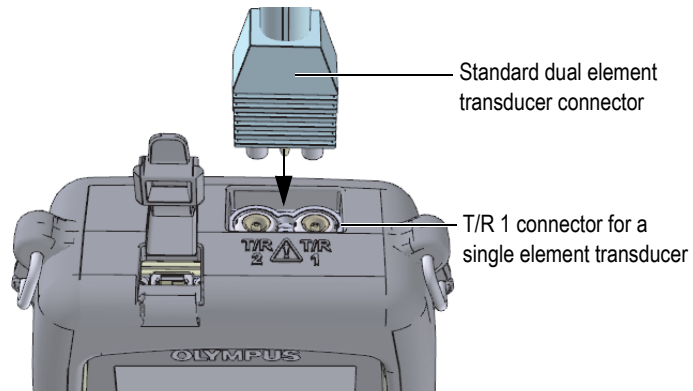

Figure 5-1 Plugging in the transducer
1. Plug the transducer into the transducer connector(s) on the top of the 45MG case (see Figure 5-1 on page 62), using only T/R 1 for a single element transducer.